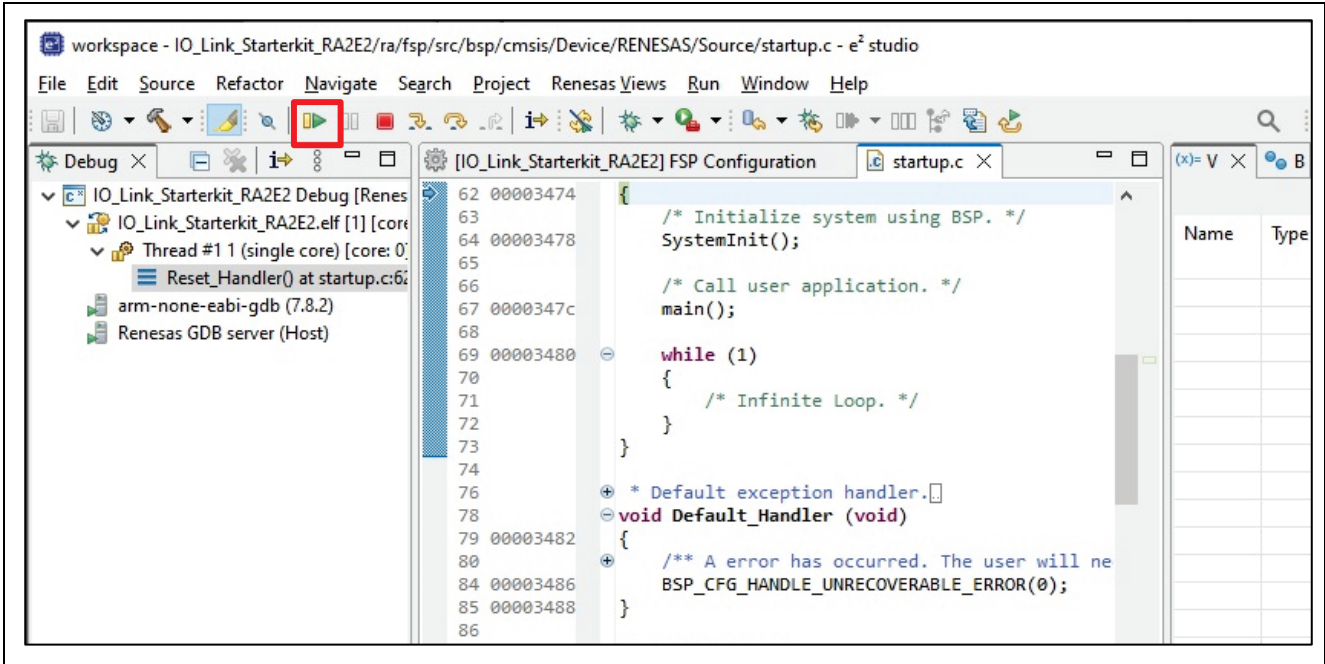

Figure 31. Writing to MCU Completed
1. In the state shown in Figure 31, click the F8 or Resume icon to start running the program.